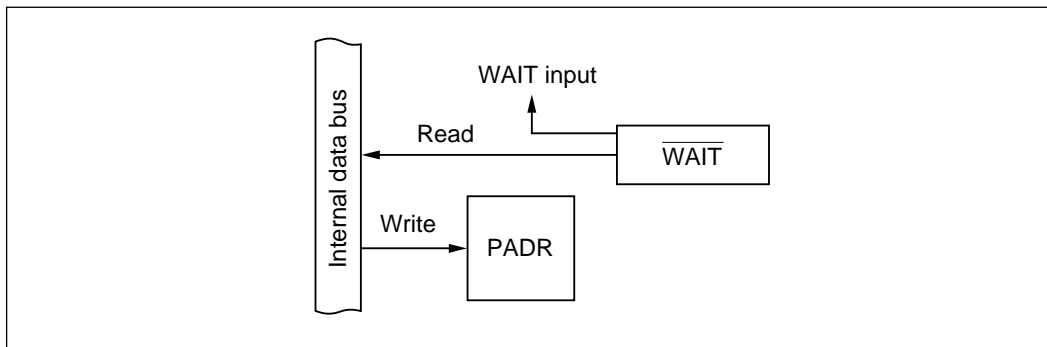

Figure 10-67 $\overline{\text{WAIT}}$ Input Pin (Modes 1 to 6)
(5) **$\overline{\text{WAIT}}$ Pin (PA₄: Modes 1 to 6):** Figure 10-67 shows a block diagram illustrating the $\overline{\text{WAIT}}$ function. Table 10-50 indicates register read/write data. When PA₄ is used for $\overline{\text{WAIT}}$ input, the value written in the port A data register (PADR) has no effect.